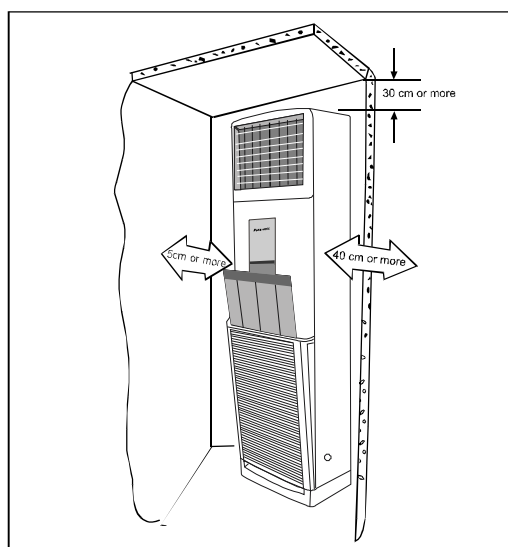

Fig.2
- Ensure the spaces indicated by arrows from the wall, ceiling, fence, or other obstacles.(Fig 2)